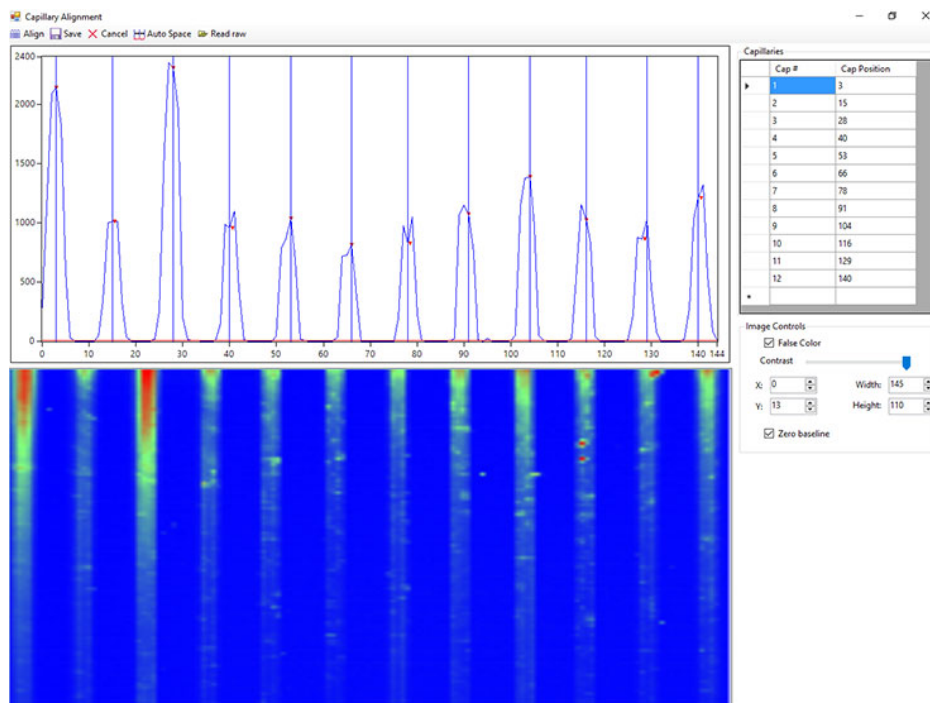

Figure 29 Real time Capillary Alignment window
This will open the real time view of the **Capillary Alignment** window (Figure 29).
This will open the real time view of the **Capillary Alignment** window (see **Figure 29**).
- 7 Adjust the red baseline seen in **Figure 29** until a red dot is observed above each capillary peak. This determines which capillary peaks are selected. It is important to ensure this red line is above the baseline.